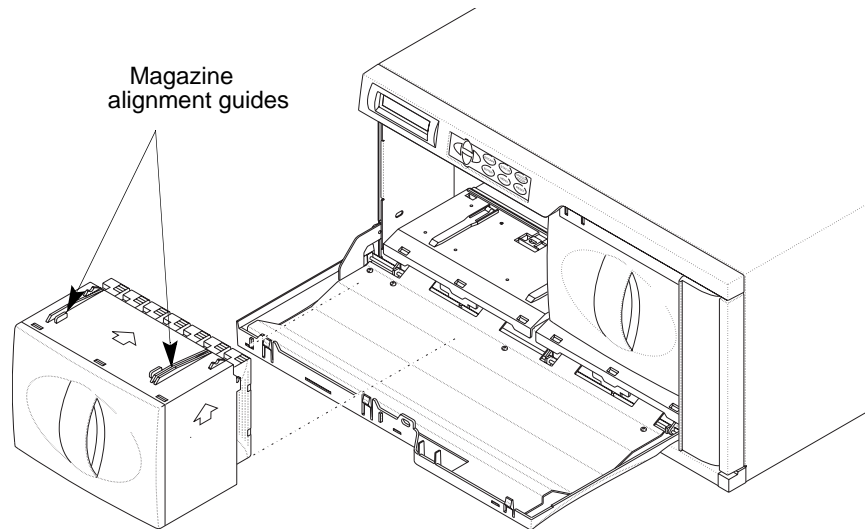

Figure 4-3 *Installing a magazine in the library*
3. Insert each cartridge magazine into the library so that the alignment guides are up (as shown in Figure 4-3) and the alignment grooves are down.